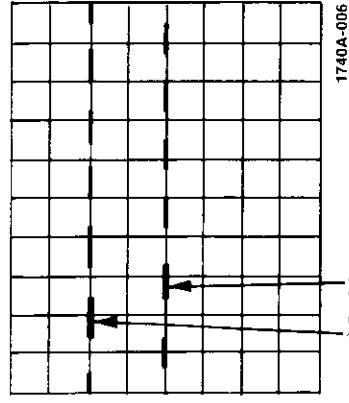

Figure 6b. Delayed Sweep Display
4. Press DLY/D **48** and note the intensified portion of the trace is now displayed across the entire CRT (see figure 6b).